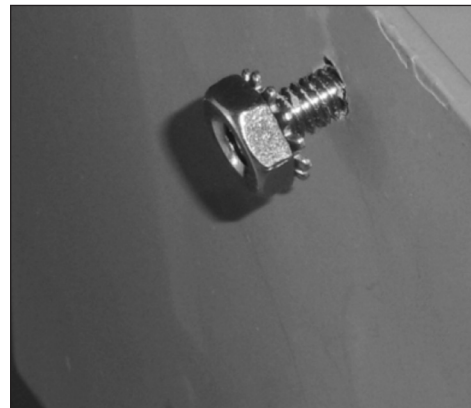

Figure 7.24 Example - 1/2 screw inserted into top hole of mounting plate
- Source locally one (1) #8-32 X1/2" screw, two (2) each #8-32X3/4" screws and three (3) #8-32 Kep® nuts (or equivalent) for this step. Insert 1/2" screw into top hole in mounting plate and thread one of the nuts loosely on the end as shown in Figure 7.24. Example